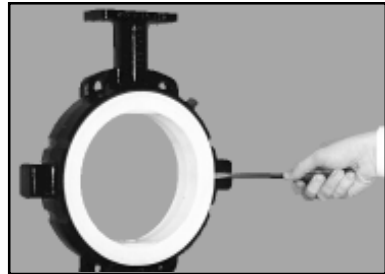

Fig. 1
3. Remove the disc screws (J) from the disc (D) and the shaft (H) of the butterfly valve.
4. Slide the shaft (H) out of the disc (D) and housing (B). Remove the disc and set it aside.
5. Remove the seat (A) by placing a blunt instrument with rounded edges, such as a slotted screwdriver, between the housing (B) and the seat, see Fig. 1.